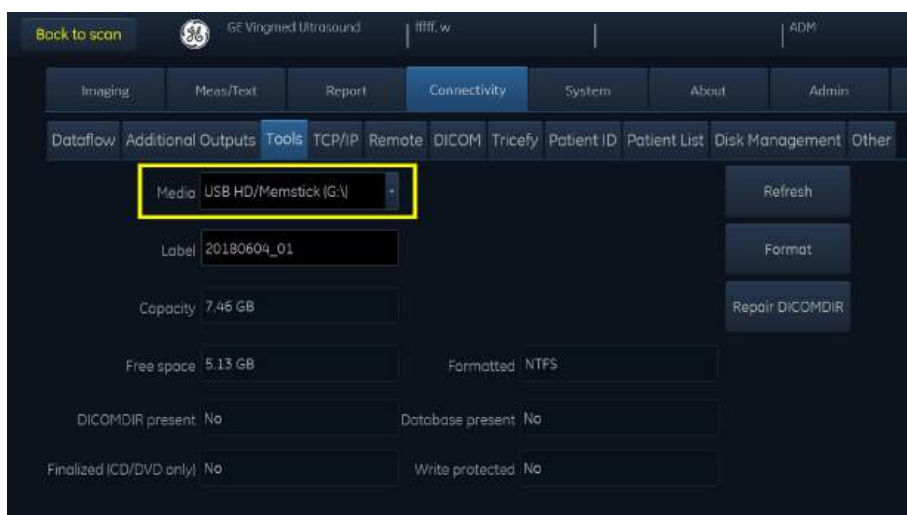

Figure 3-27. The Tools tab
4. Select the category **Connectivity** and select the tab **Tools** (Figure 3-27).